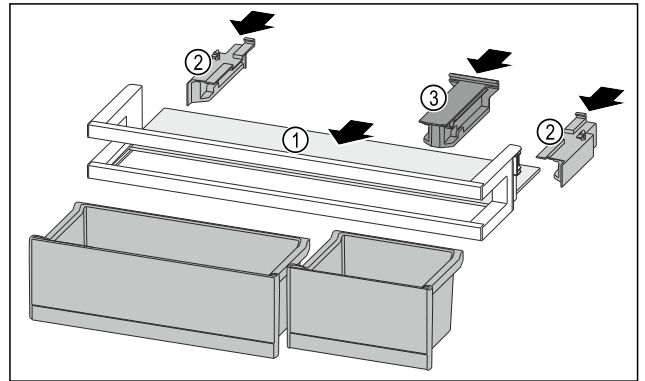

Fig. 95
- Push the shelf *Fig. 95 (1)* into the side recesses.
- Insert the side parts *Fig. 95 (2)*.
- Insert the holding part *Fig. 95 (3)*.